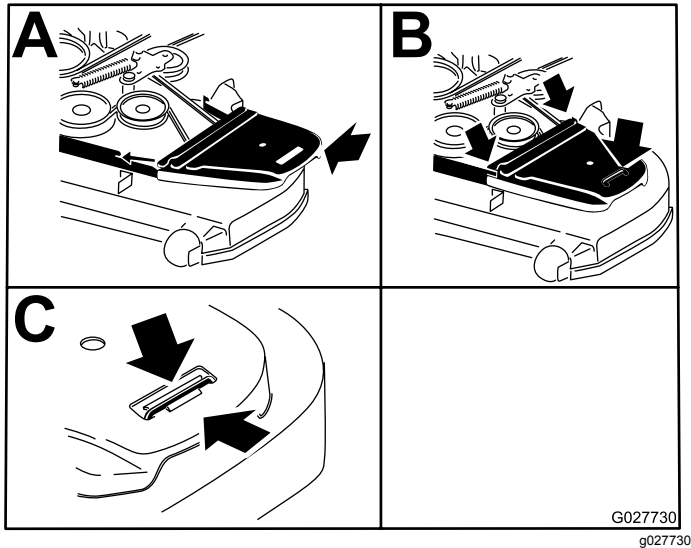

Figure 64
9. Install the belt covers (Figure 64).